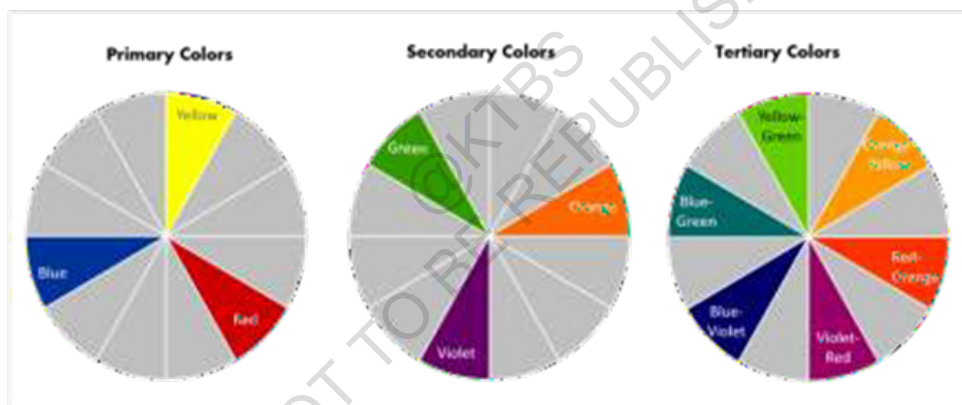

*Fig.4.9 Primary, Secondary, Tertiary*
**Tertiary Colors:** Yellow-orange, red-orange, red-purple, blue-purple, blue-green & yellow green are tertiary colours. These are the colours formed by mixing a adjacent primary and a secondary colour in equal proportions.(Fig 4.9)